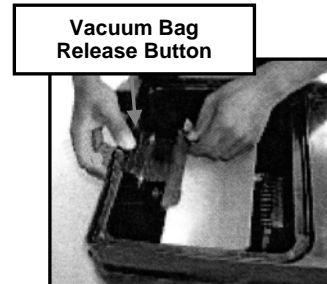

Fig. 8
4. Press on the vacuum bag release, in order to release the bag and remove it. (Fig. 8)